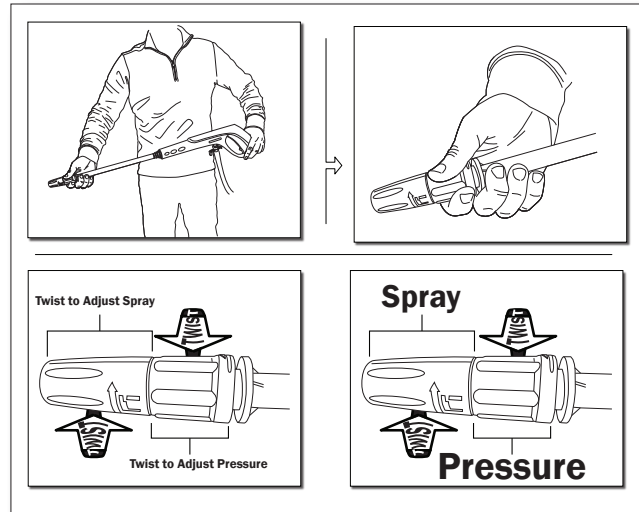

Fig. 25
- Use the high/low nozzle lance when cleaning windows. Be sure to adjust the nozzle to low spray and place the nozzle approximately four to five feet away from the window with the nozzle at forty five degree angle. Squeeze the trigger and vary the spray pattern and angle until optimum cleaning efficiency is achieved (**Fig. 25**).